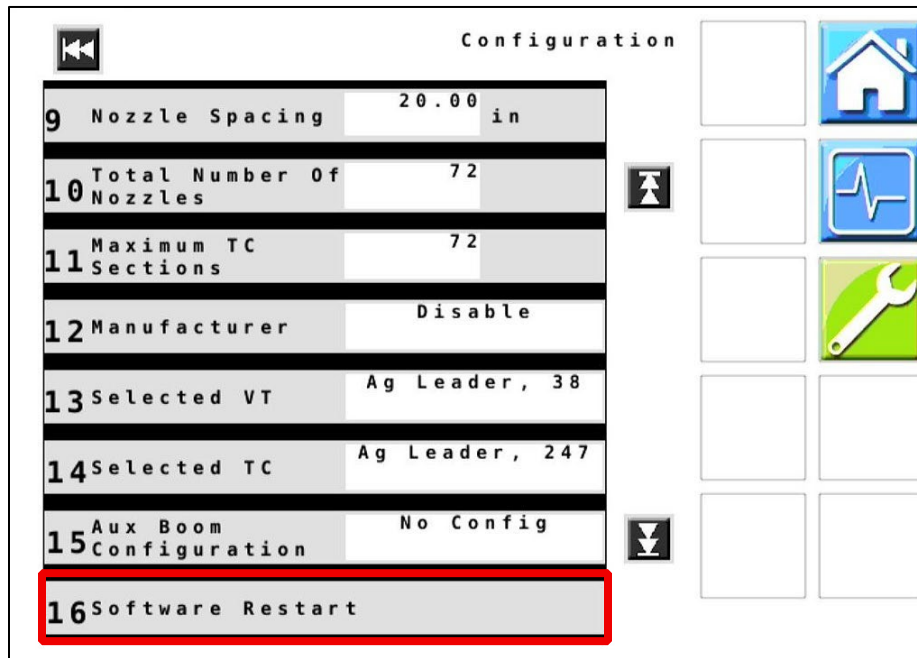

Figure 24 – Configuration Menu – Page 2
43. **Figure 24:** Navigate to **Page 2** and tap **Software Restart**.